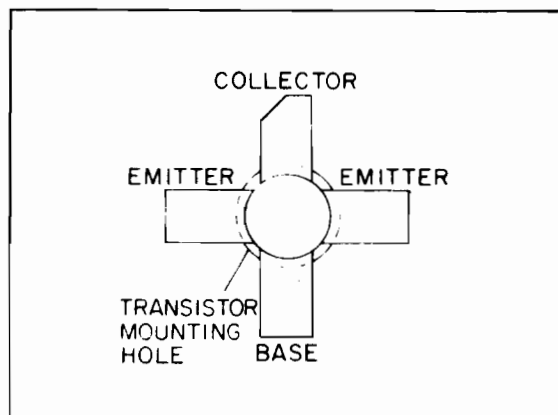

Figure 7 - Lead Identification
4. Trim the new transistor leads (if required) to the lead length of the removed transistor. Cut the collector lead at a 45° angle for future identification (see Figure 7). The letter "C" on the top of the transistor also indicates the collector.